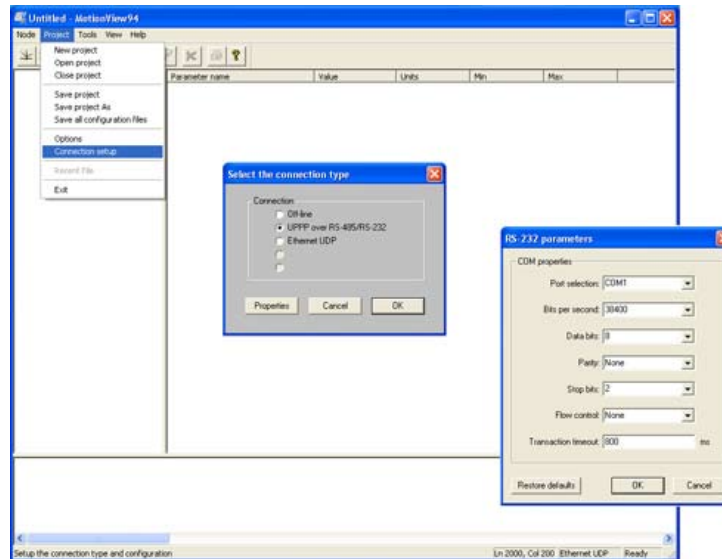

Figure 8: RS-232 Setup
3. Select [Node] then [Connect drive] or click the  icon. The Connection dialog box opens as shown in Figure 8.